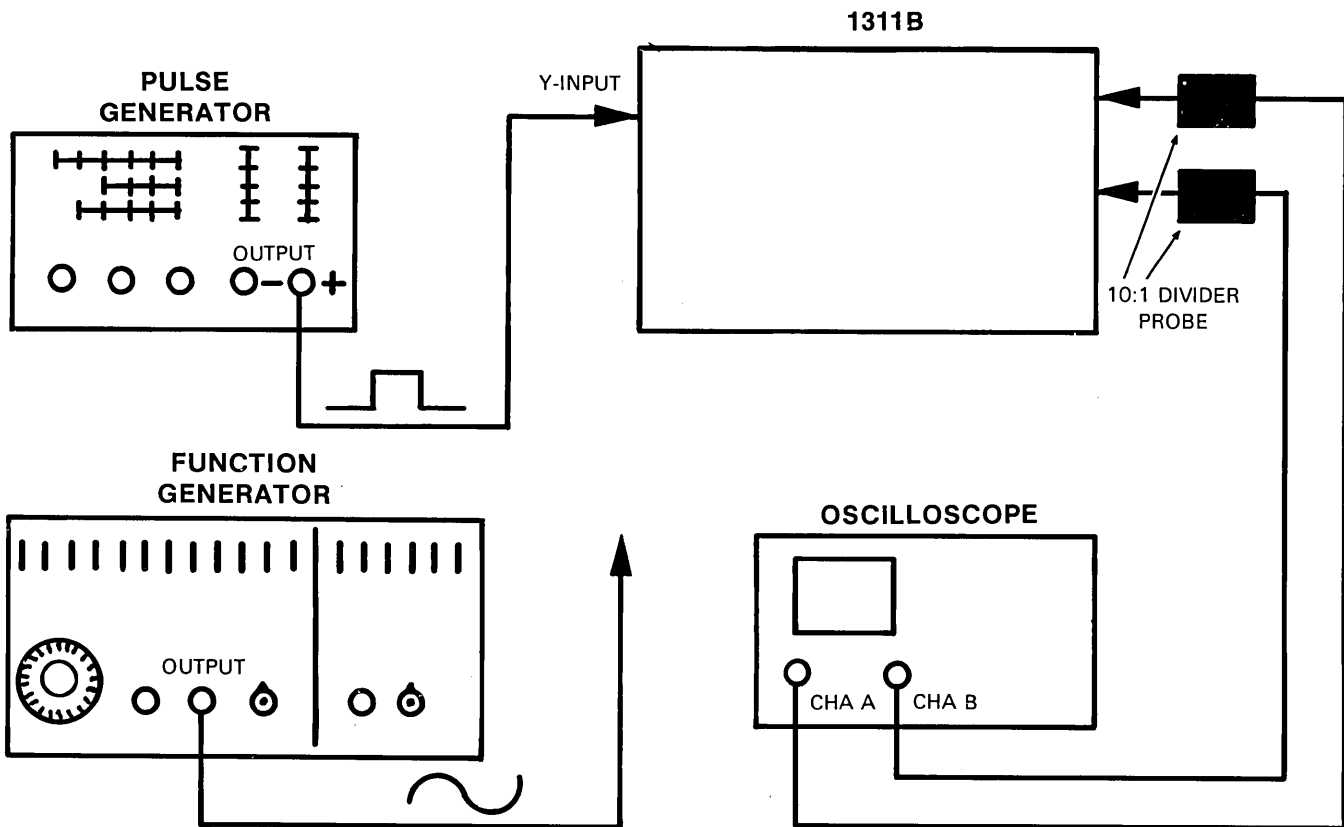

Figure 5-10. Y-amplifier Pulse Response and Bandwidth Adjustment Setup
- b. Connect equipment as shown in figure 5-10.